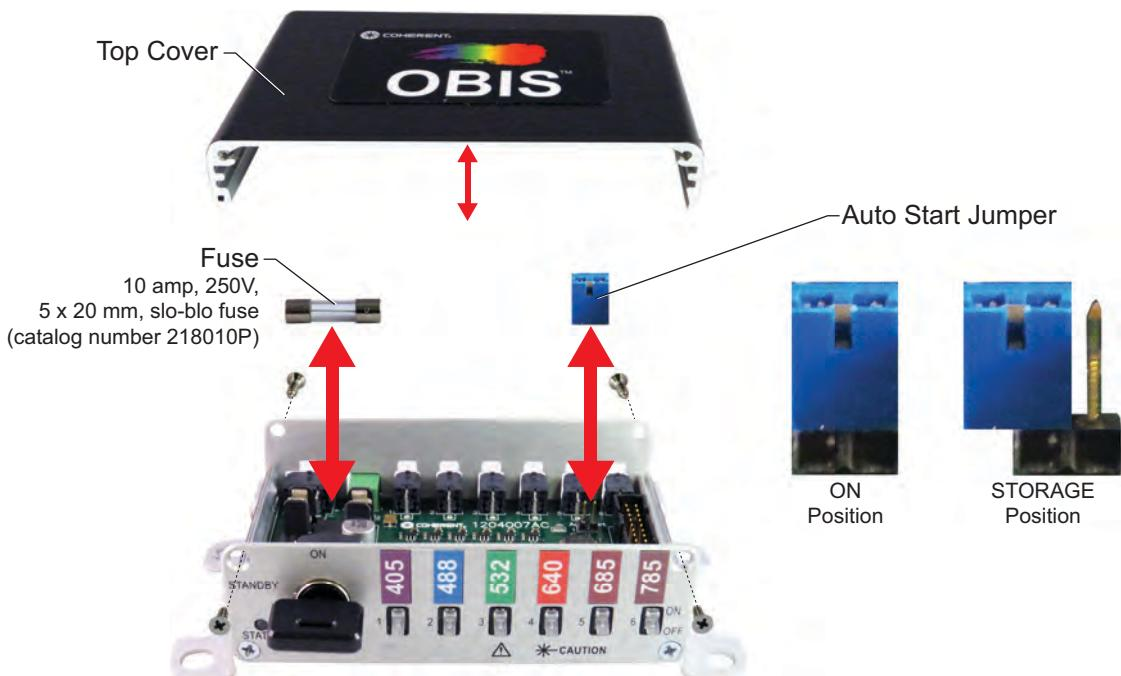

Figure 10-11. OBIS 6-Laser Remote Exploded View
The Auto Start jumper is inside the OBIS 6-Laser Remote. To access the jumper, remove the top four screws on the front and back covers and then remove the top cover (refer to Figure 10-11, below). The remote jumper is at the back of the OBIS 6-Laser Remote, near the corner. The Auto Start jumper is a 100 mil shunt. To store the jumper in the OBIS 6-Laser Remote, attach the jumper to only one of the pins.
- [] Remove the OBIS 6-Laser Remote cover and check the fuse. If the fuse needs replacement, use a 10 amp, 250V, 5 x 20 mm, slo-blo fuse (catalog number 218010P). Refer to Figure 10-11 (p. 10-8) for location of the fuse and the cover screws.